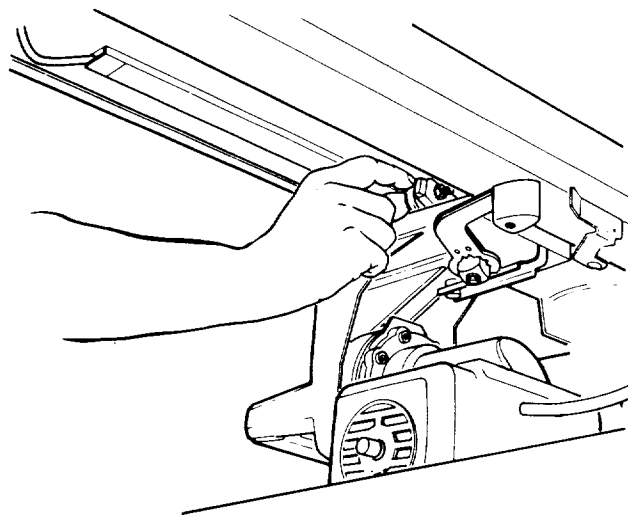

Fig. 96
12. Pinch the *front carriage bearing* with your fingers as tightly as possible while you pull the *motor* forward with the other hand. Try to keep the *carriage bearing* from turning. (Figure 96)